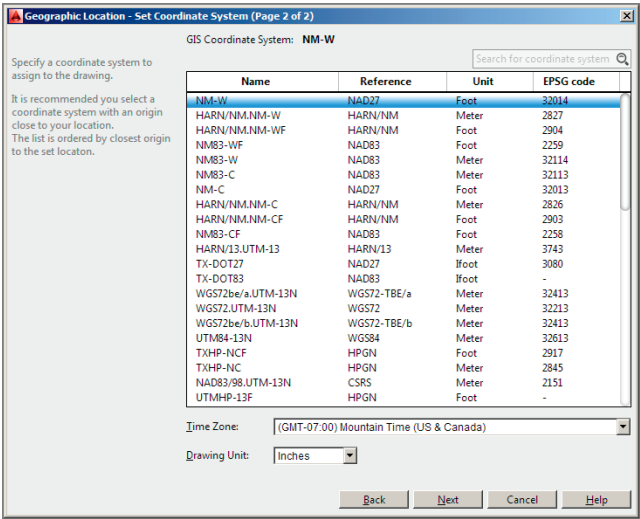

FIGURE 15.3 Choosing a coordinate system
- 2. Click the Next button at the bottom of the Geographic Location dialog box. Select the first item in the list of coordinate systems, NM-W in this example. This system has its origin point closest to the chosen site (see Figure 15.3).